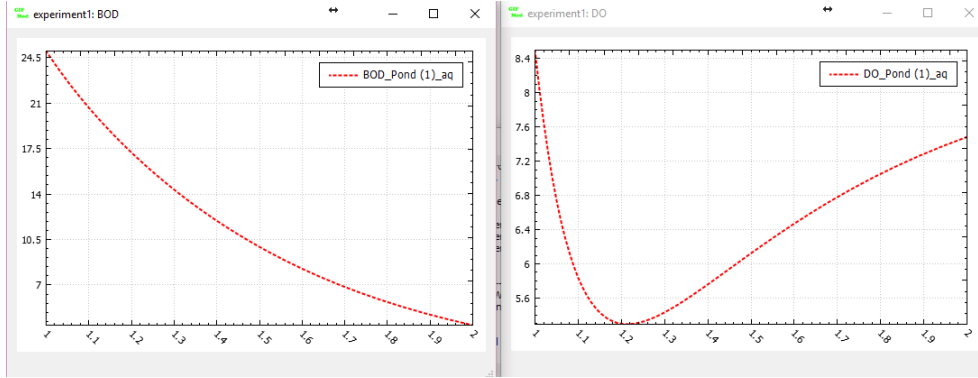

Figure 2: Prediction of BOD and DO variation as a result of forward simulation
- **Run the model in forward:** You can now save the model and run it in forward mode and check the predicted DO and BOD concentration variation during the simulation period. The results should look like figure 2.
- * **Location:** $Pond (1)$